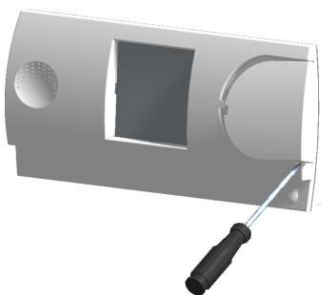

Fig 2 Cover
- Unpack the unit and remove the large button paddle by prizing it off with a small flat headed screw driver inserted between the button and the case at the lower right hand side (fig2). This will reveal the screw securing the cover.